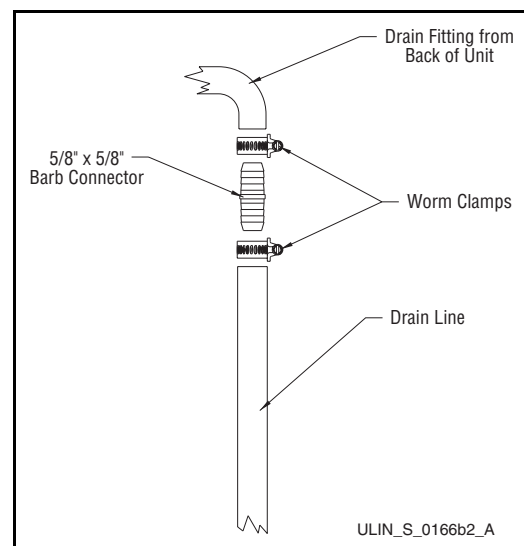

Figure 5
4. Slide a clamp on each side of the barbed fitting as shown (**Figure 5**).